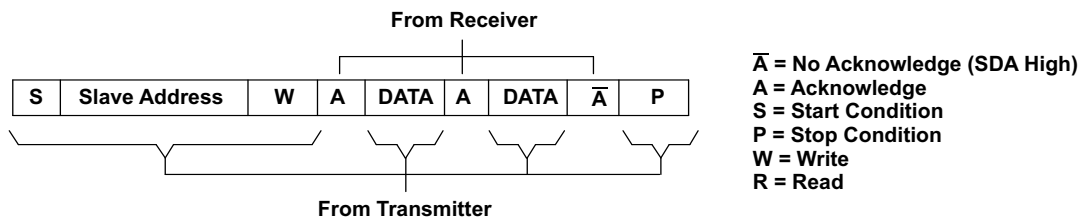
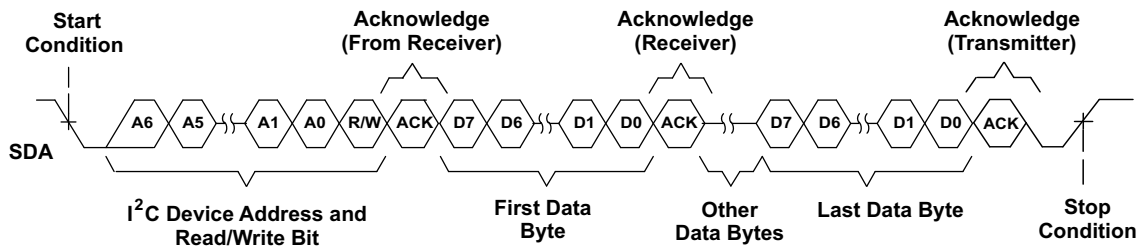
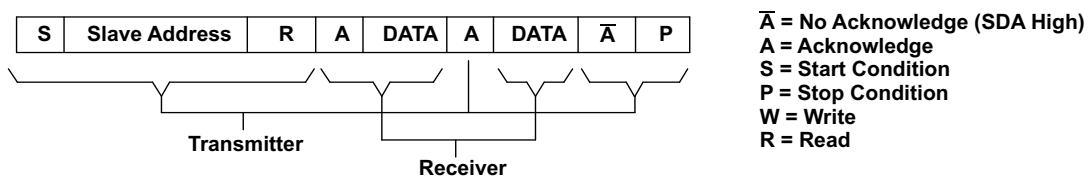
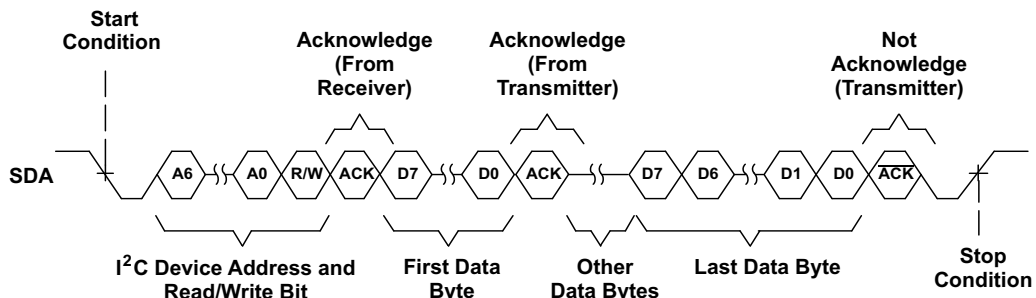

Figure 74. I²C Write Cycle
Figure 75. Multiple Byte Write Transfer
Figure 76. I²C Read Cycle
Figure 77. Multiple Byte Read Transfer
During a write cycle, the transmitting device must not drive the SDA signal line during the acknowledge cycle, so that the receiving device may drive the SDA signal low. After each byte transfer following the address byte, the receiving device pulls the SDA line low for one SCL clock cycle. A stop condition is initiated by the transmitting device after the last byte is transferred. An example of a write cycle can be found in Figure 74 and Figure 75. Note that the THS7353 does not allow multiple write transfers to occur. See example section –*Writing to the THS7353* for more information.
During a read cycle, the slave receiver acknowledges the initial address byte if it decodes the address as its address. Following this initial acknowledge by the slave, the master device becomes a receiver and acknowledges data bytes sent by the slave. When the master has received all of the requested data bytes from the slave, the not acknowledge (A) condition is initiated by the master by keeping the SDA signal high just before it asserts the stop (P) condition. This sequence terminates a read cycle as shown in Figure 76 and Figure 77. Note that the THS7353 does not allow multiple read transfers to occur. See example section –*Reading from the THS7353* for more information.
The THS7353 operates using only a single byte transfer protocol similar to Figure 74 and Figure 76. The internal subaddress registers and the functionality of each are found in Table 2. When writing to the device, it is required to send one byte of data to the corresponding internal subaddress. If control of all three channels is desired, then the master has to cycle through all the subaddresses (channels) one at a time, see the example section –*Writing to the THS7353* for the proper procedure of writing to the THS7353.